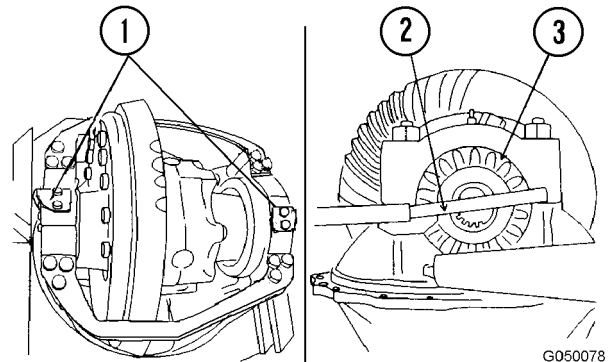

FIGURE 5-10. DIFFERENTIAL
1. Remove locks (1, Figure 5-10).